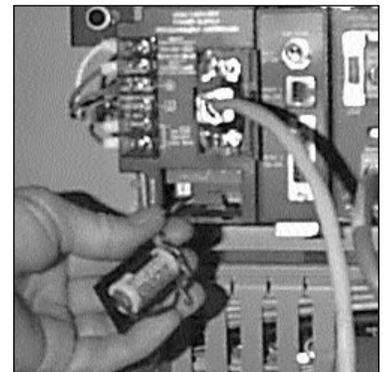

Fig. 17
4. Install the new battery together with the connector.(See Fig. 17) (The Red L.E.D next to battery will turn off.)